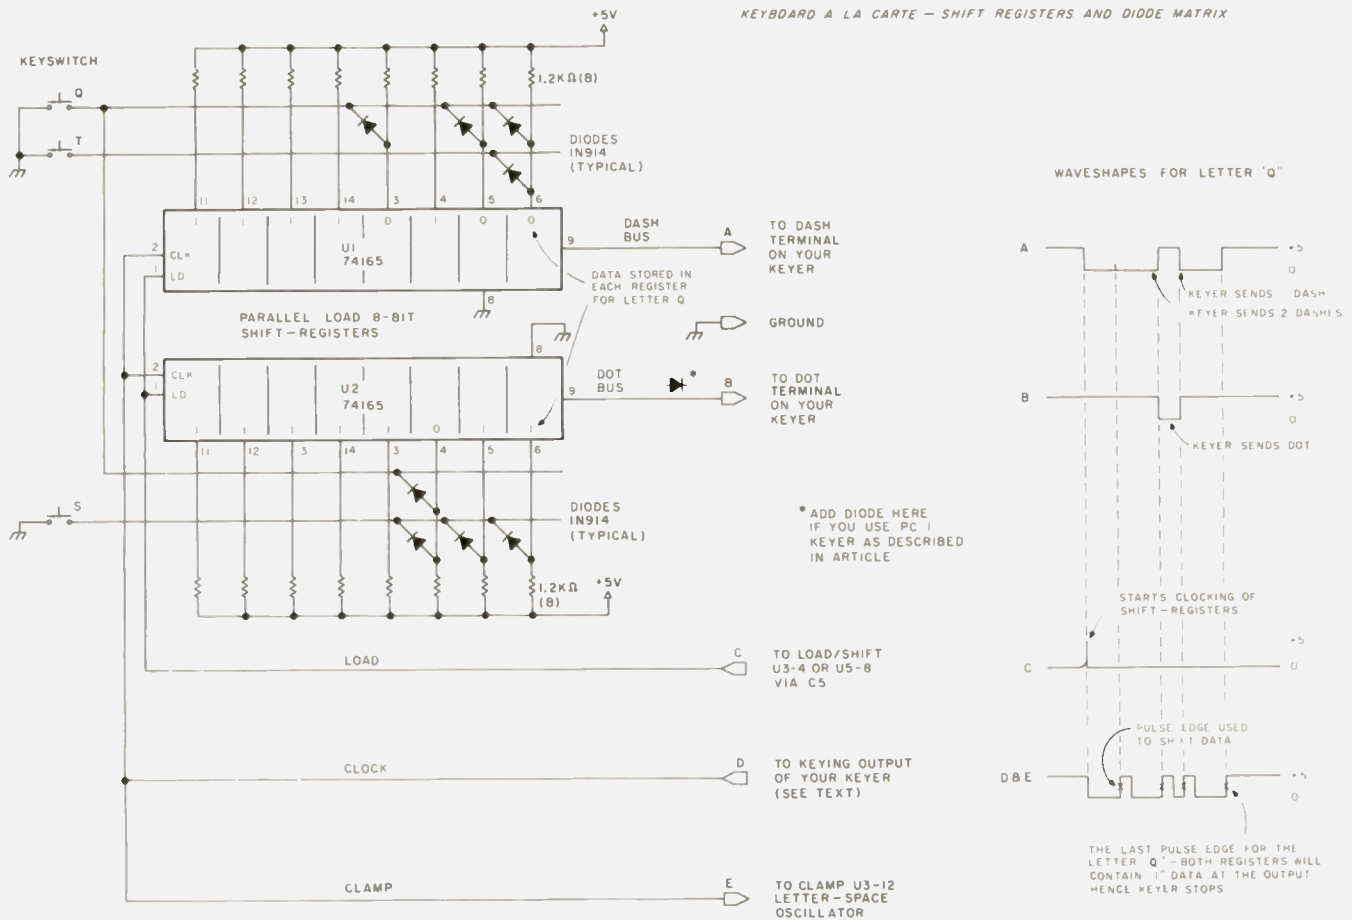
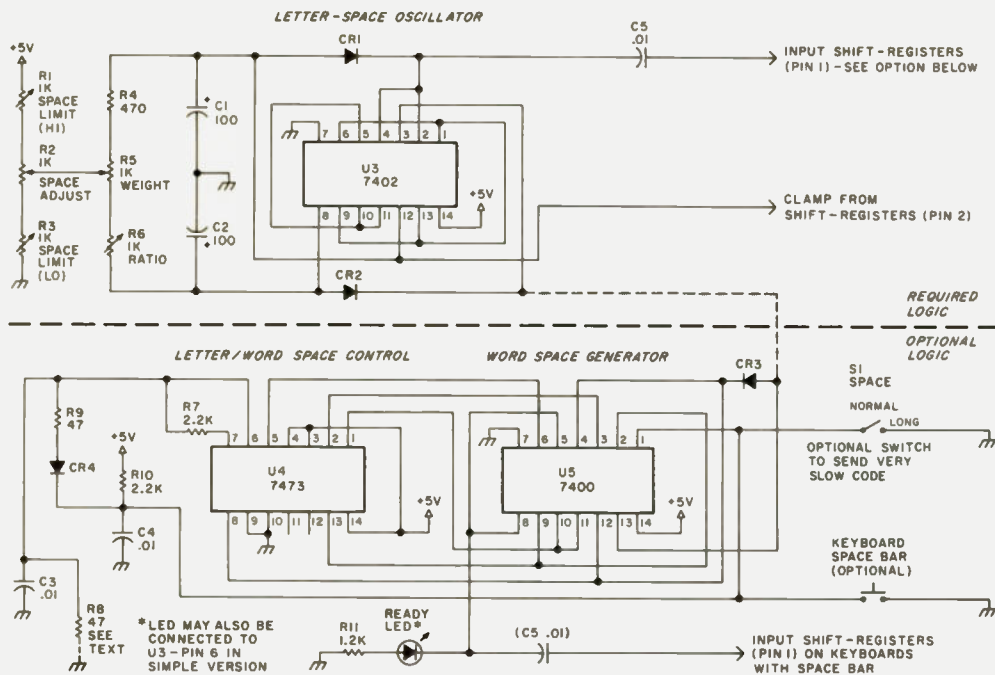

Fig. 1. Keyboard a la carte—shift registers and diode matrix.
Fig. 2. Keyboard letter/word space-timing circuits.
In this design, I used a diode matrix to establish the Morse coding elements (dots and dashes—forget about the spaces; your keyer takes care of that). In Fig. 1, the diodes forming the dot elements connect to a “dot” 8-bit shift register (U2), and the dash diodes connect to the “dash” shift register (U1). Examples of the diode arrangement to form the letters Q, S, and T are provided. The diodes may be wired all on one assembly to simplify wiring. The 8-bit shift registers store the “dot” and “dash” characterization for each letter in the order sent. There is no requirement to characterize the elemental spaces because this function re-
If the shift registers were not clocked, a second dash or dot would follow the first just as if you were holding down the key on your keyer. If both of the shift register outputs are high, the keyer again does its thing by doing nothing. When your keyer is idle, the a la carte keyboard assumes you have completed sending a letter, and it awaits the suggestion that you desire to send another letter. The letter-space oscillator (U3) controls this timing (Fig. 2). It sends a pulse (C) to the
shift register's load/shift input (pin 1) so that you can load in the next character from the diode matrix. If this pulse arrives at the shift registers when a key is being depressed, the next dot or dash instantly is on its way to the proper input of your keyer. Fig. 1 shows logically how the letter "Q" is loaded into the registers.
When your keyer is sending the letter, an output signal similar to the wave-shape shown in Fig. 1 (D and E) is routed to the shift registers (pin 2). This is a true representation of the Morse code as sent to your transmitter. It serves as a clock to advance the data stored in each of the eight locations in the shift registers. The 74165 clocks on the positive-going pulse at the end of each dot or dash element formed in your keyer. With the generation of the letter "Q", the data is shifted four times after
If the keyboard you have selected to use contains a space bar, you can add an optional circuit, shown in Fig. 2. It consists of a 7400 gate and a 7473 flip-flop. For most parts, it is a
shown in Fig. 2 is the basic keyer (you could buy two and use one for the keyer and one for the space-word timing circuit). The design of the PC-1 keyer was such that I was required to insert a diode in the dot input terminal (Fig. 1) to eliminate a low-impedance path to the dash bus.